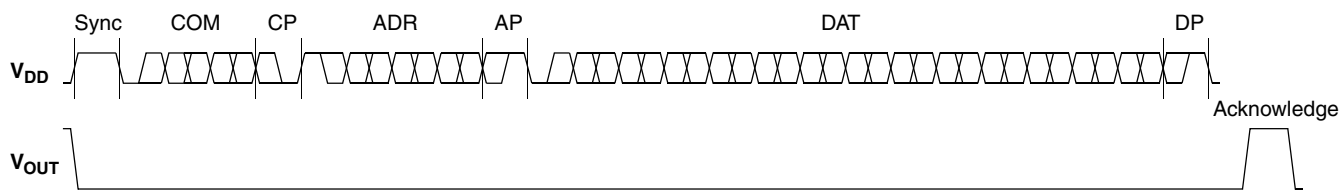
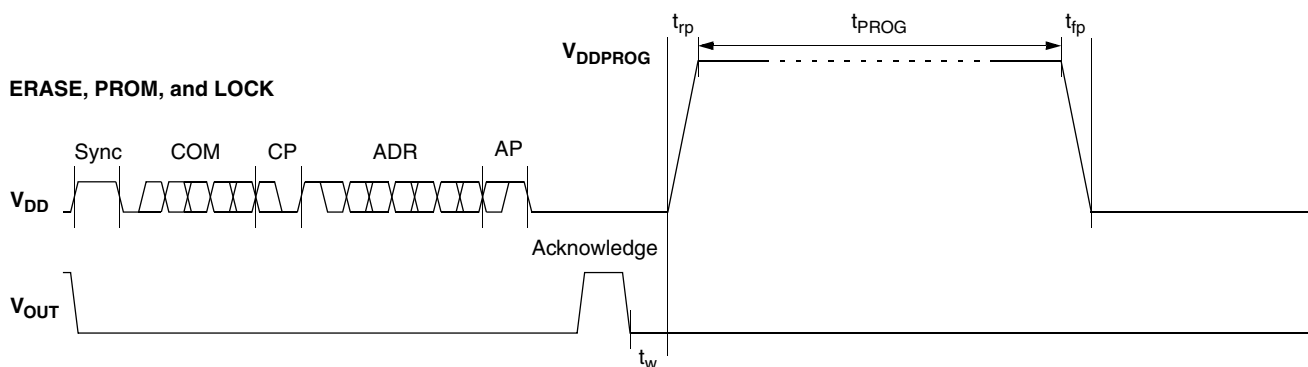

Fig. 5-2: Telegram for coding a Write command
Fig. 5-4: Telegram for coding the EEPROM programming
After the AP bit, follow 14 Data bits (DAT) and the Data Parity bit (DP). If the telegram is valid and the command has been processed, the sensor answers with an Acknowledge bit (logical 0) on the output (see Fig. 5-2).
After evaluating this command, the sensor answers with the Acknowledge bit. After the delay time t_w , the supply voltage rises up to the programming voltage (see Fig. 5-4).
To lock the EEPROM registers, the lock bit has to be set. In case of HAL 82x, HAL83x, HAL880 and HAL1002 it is necessary to write the lock bit into the lock register (see Fig. 5-2). If the telegram is valid and the command has been processed, the sensor answers with an Acknowledge Bit (logical 0) on the output. In order to store the lock bit permanently, an erase and program command have to be sent to the sensor. This is the same procedure as mentioned above (see Programming the EEPROM cells and Fig. 5-4). The EEPROM registers are locked **after** a power on reset. For HAL 805, HAL 815, HAL817, HAL 810 and HAL1000 the lock command must be used.